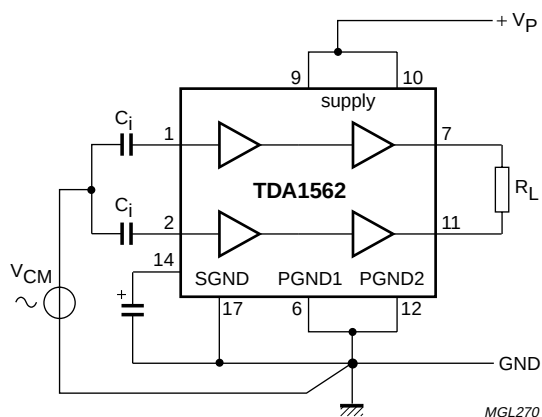

Fig.9 CMRR test setup.
4. Common mode rejection ratio is measured across R_L ; $V_{cm} = V_{cm \text{ max.}} = 2 V_{PP}$. CMRR [dB] = differential gain (G_v) + common mode attenuation (A_c), (Test setup according Fig. 9; mismatch of input coupling capacitors **excluded**).